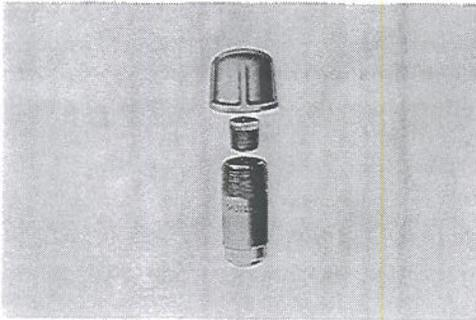

FIGURE 34
2. Remove completion cap and completion plug. **Figure 34**.